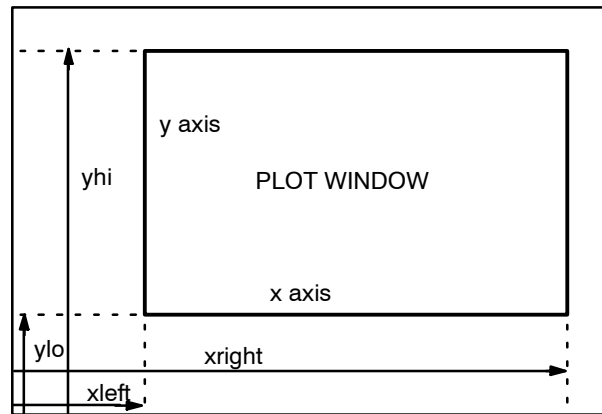

Figure 4-22 Setting the Positions of the Axes
The end points of the axes are defined by specifying their distance, in mm, from the bottom left-hand corner of the paper. Figure 4-22 shows the four Plot Window parameters (two for each axis):
- 3 Type the distance of the left-hand end of the abscissa axis from the left-hand edge of the paper (**xleft**) (Figure 4-22).
- 5 Repeat for **xright**, **ylo**, and **yhi**, using Figure 4-22 to help determine the correct setting for each.